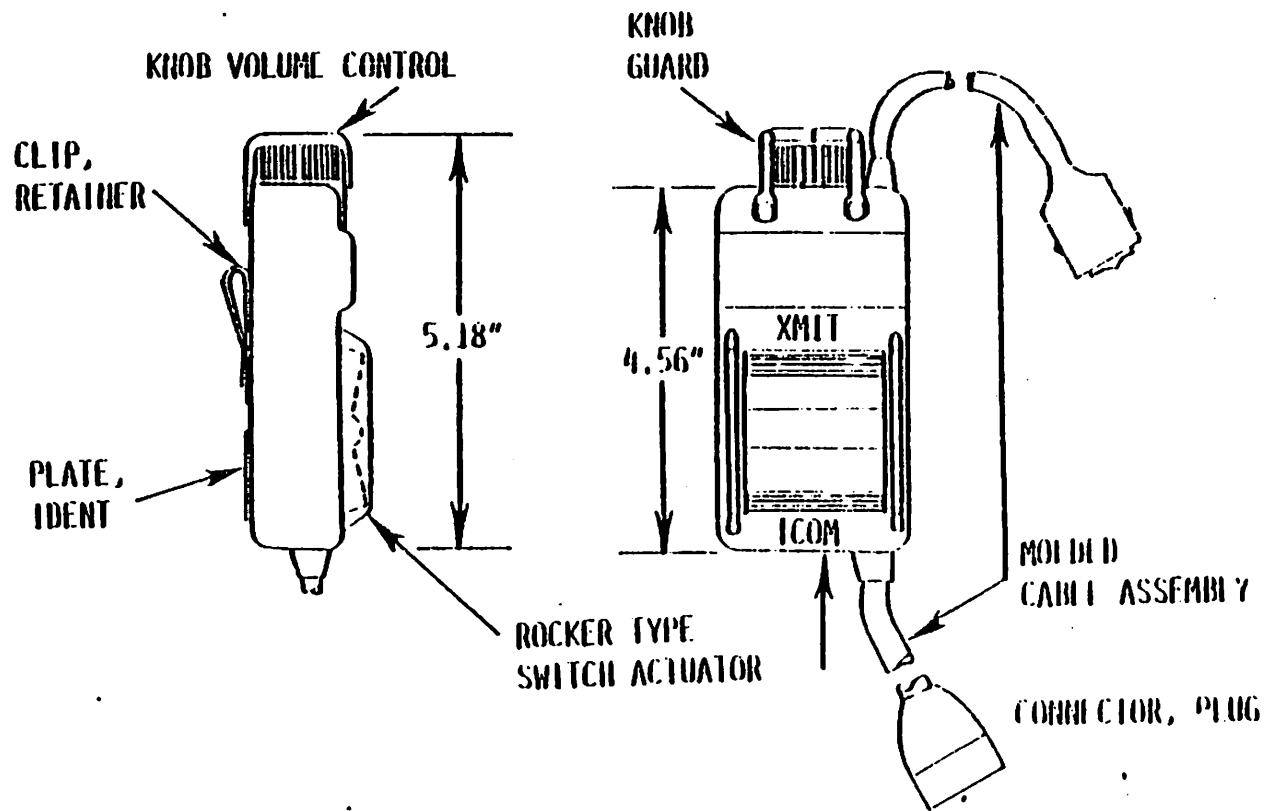

Figure 3-12.- Headset interface unit (HIU).
3.1.7 Headset Interface Unit (HIU).- The HIU is a portable mic switch which is part of a CCU (Figure 3-12). The HIU has a clip for attaching to an individual's flight suit. The unit has a rocker-type three-position switch and a volume control knob. The switch positions are XMIT, ICOM, and an unlabeled, spring-loaded off, center position. The XMIT position allows access to intercom and external circuits, while the ICOM position is for intercom only. The volume control knob acts in series with the volume controls on the associated ATU. See note in Section 3.3.A.